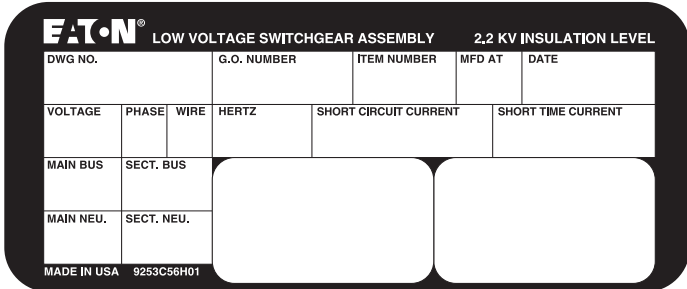

Figure 1. Typical blank Magnum DS rating nameplate
**METAL-ENCLOSED LOW-VOLTAGE ASSEMBLIES COVERED BY THESE INSTRUCTIONS ARE DESIGNED AND TESTED TO OPERATE WITHIN THEIR NAMEPLATE RATINGS. OPERATION OUTSIDE OF THESE RATINGS MAY CAUSE THE EQUIPMENT TO FAIL RESULTING IN DEATH, SERIOUS INJURY AND/OR PROPERTY DAMAGE. ALL RESPONSIBLE PERSONNEL SHOULD LOCATE THE EQUIPMENT RATING NAMEPLATE AND BE FAMILIAR WITH THE INFORMATION PROVIDED THEREON. A TYPICAL MAGNUM DS® SWITCHGEAR NAMEPLATE IS SHOWN IN FIGURE 1.**
Magnum DS low-voltage assemblies are complex, high current electrical equipment designed to operate within the voltage and current limitations shown on their respective nameplates (Figure 1). Do not apply this equipment to systems with voltages and/or currents in excess of these limits.